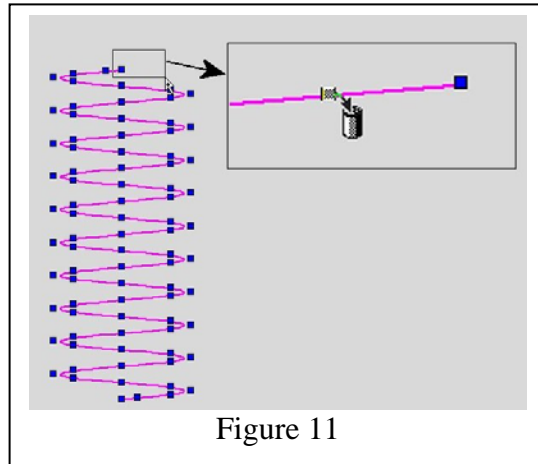

Figure 11
*Note:* A peculiar characteristic of an exploded Helix is that very close to each of its two end nodes is a second node, perhaps only 0.001 inch away. These two extra nodes sometimes cause problems with later operations and should be deleted immediately after exploding the Helix. To delete one of these, go to “Right” view, select the spline with the Edit tool, with “Edit Control Points” enabled on the Inspector Bar. Draw a selection rectangle around one of the visible end nodes, as shown in the left side of Figure 11. Zoom in close enough to see that the selection actually comprises *two* nodes. Press and hold the Ctrl key, place the cursor on the inboard node of the pair, and wait for the cursor to display the “Delete node” icon as shown in the right-hand side of the illustration. Click the left mouse button and the selected node will disappear. Repeat this procedure at the other end of the spline.